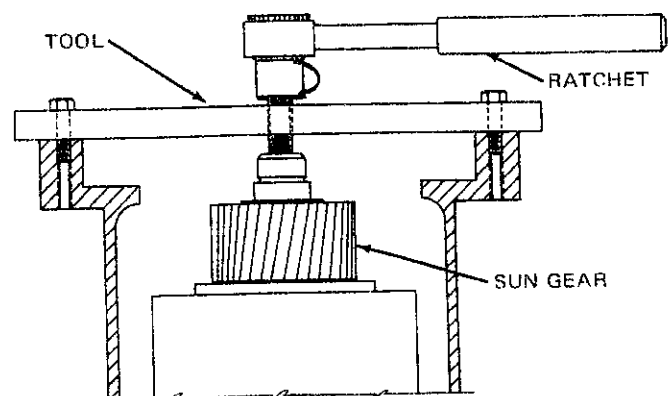
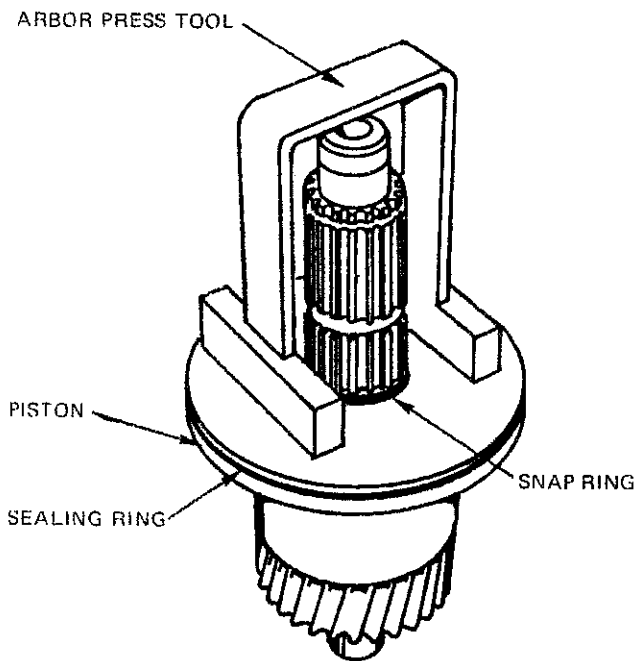
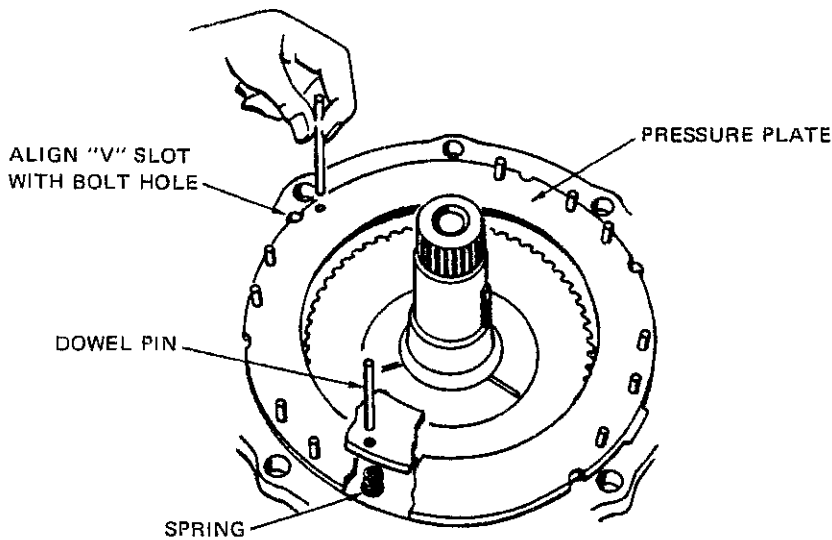

FIG. 6 PRESS AGAINST SUN GEAR SHAFT.
FIG. 7 ASSEMBLE PISTON & SNAP RING
FIG. 9 DOWELS USED TO RETAIN SPRINGS
1) Use a tool similar to the one shown in Fig. 6 to press against the end of sun gear and output shaft (54), while completing steps two through five, inclusive.
3) Remove bearing retainer to case bolts (4) and lockwashers. Remove bearing retainer (7) and bearing spacer (12) from transmission case. It may be necessary to use a large plastic hammer to help free retainer from case.
4) Remove the "O" ring (9) from behind bearing.
7) Remove the snap ring (58) from clutch cylinder.
10) Position remaining clutch parts, with a tool similar to the one illustrated in Fig. 7 on an arbor press and compress clutch return spring, then remove snap ring (34) from behind clutch piston.
11) Remove clutch piston (36), and spring (50) from sun gear and output shaft (54). Remove sealing ring from clutch piston.
12) Remove the two cast iron sealing rings (32) from rear of clutch housing.
13) Inspect the bearing cups (10) in case and retainer. Remove only if replacement of cups is required.
2) Use a tool similar to the one shown in Fig. 6 to press against the end of sun gear and output shaft, while removing the snap ring which retains reduction unit gears to forward and reverse transmission output shaft. Slide reduction unit parts from shaft.
3) Complete steps six through twelve inclusive of section "To Complete Disassembly of Forward and Reverse Transmission" except, following step No. 8, complete the following instruction: Place clutch cylinder and sun gear under an arbor press and compress clutch spring to permit removal of "O" ring backing plates (53) and "O" ring (54). The "O" will be positioned in the shaft groove behind the annular bearing on a few early transmissions.
4) Remove the snap ring (17) from bearing retainer (23) and remove ring gear (18) and ring gear hub (19) from 3:1 units. Remove snap ring (19) and pinion cage assembly (20) from 2:1 units.
6) Pull bearing (32) from case. It will be necessary to remove the snap ring (23) from bearing snap ring groove on 1.5:1 units, so that a puller may be installed in bearing groove.
8) Remove bearing retainer to reduction housing bolts (1). Remove bearing retainer (27) and rear bearing cone.
2) Assemble regulator valve (44) and spring (43) into shift valve (45) bore. Press spring retainer (38) into place and install snap ring (42) in valve groove. The retainer should offset away from spring.
3) Assemble the "O" ring (46) in shift valve groove. Lubricate and assemble valve and spring assembly into case bore. The slot in end of valve should be aligned with the lower valve body cover bolt hole.
4) Assemble a new valve cover gasket (39), valve cover (6) and three 1/4--20 X 5/8 hex head bolts (41) with lockwashers (40).
5) Assemble shift lever (22), detent spring (20), detent ball (21), control lever washer (23), lockwasher (24) and nut (25). Spring and ball should be liberally greased to prevent rust caused by salt water entering spring bore.
6) Replace all pipe plugs, oil screen (49), drain plug (48) and dipstick (19).
7) Assemble oil baffle (30) into case (29).
8) Assemble an "O" ring (51) in shaft (54) groove nearest sun gear. Lubricate the "O" ring. Place clutch piston return spring (50) on shoulder of bearing sleeve (53).
**NOTE:** Bearing sleeve (53), bearing sleeve bushing (52) and output shaft (54) are an assembly and normally are not disassembled. The bushing was not used in early transmissions. The new shaft with bushings may be used to replace a shaft which has no bushing.
9) Assemble a sealing ring (35) in forward clutch piston (36) groove. Lubricate the sealing ring and position piston over sun gear shaft and rest on spring.
10) Place parts assembled in steps eight and nine in an arbor press and with a tool similar to the one shown in Fig. 7, press the piston and spring down, then assemble a snap ring (34) in shaft groove behind piston.
11) Assemble clutch cylinder (33) over output shaft and piston assembly. Check, after assembling these parts, to be sure that clutch sealing rings were not sheared or damaged.
12) Start with a steel plate (56) and alternate friction (55) and steel plates until six sets of plates, a pressure plate (57) and snap ring (58) are assembled into clutch cylinder. The steel plates are coned to give a better clutch release in neutral. The cone of all steel plates should face in the same direction, preferably concave forward.
13) Assemble two cast iron sealing rings (32) into clutch cylinder (33) hub grooves.
1) Press a bearing cup (10) into transmission case bore. Press a bearing cup into bearing retainer. These cups will normally be left in position and replacement will not be required. Press a new oil seal (3) into bearing retainer until rear face of seal is flush with retainer rear face.
2) Assemble the bearing spacer (31) over output shaft and against clutch cylinder rear face.
- 4) Install the tool Fig. 6 to front of case and adjust the screw against front face of shaft to press parts rearward until they just bottom on case.
- 5) Assemble bearing cones (11) back to back over output shaft and against the spacer.